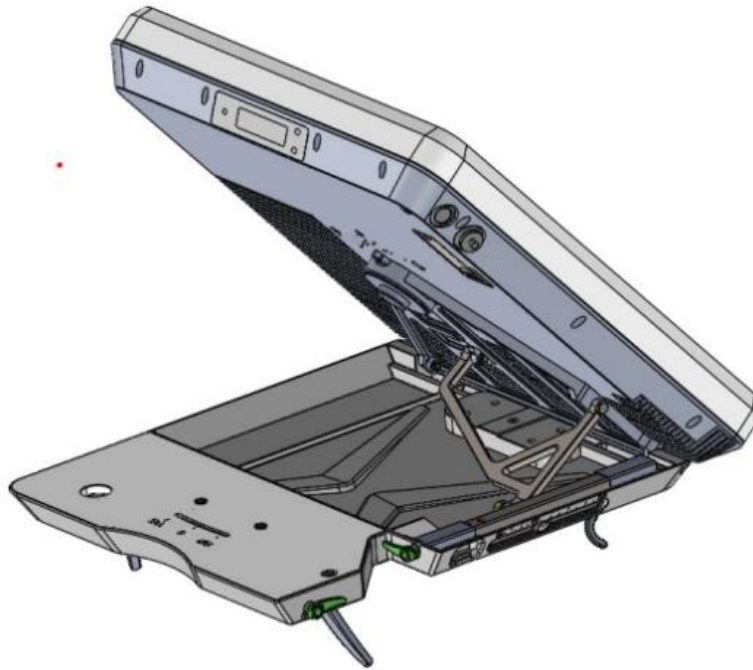

Figure 5-1-2-6 Deploy Status
6. When the Terminal is powered on, the Terminal will display with indicator and abbreviated text. The display icon description of system initialization is shown in Table 5-1-2. The first three items are main power supply detection, general power supply, LNB power supply and BUC power supply. when the self-test passes, it will be displayed as shown in Figure 5-1-2-7.